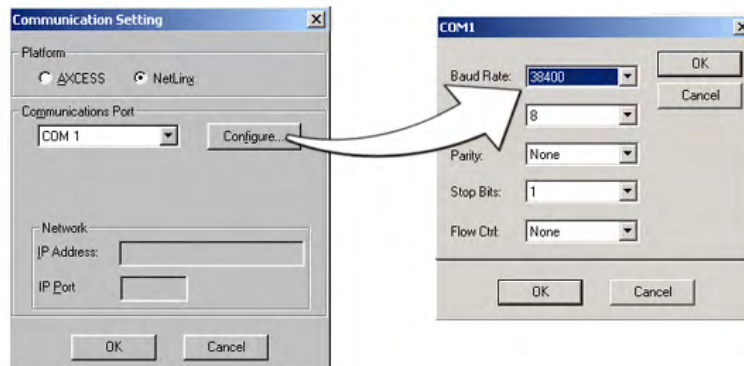

FIG. 26 Setting Comm Settings and Baud Rates
- b. Select the **Communications Port** and **Baud Rate** (FIG. 26).